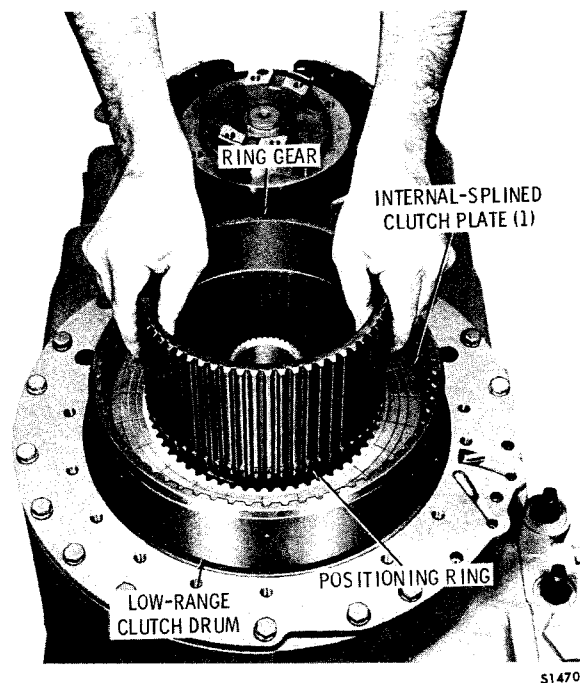

Fig. 7-9. Installing high-range ring gear (-1 model)
(3) Install snapping 25 (B, foldout 10) into the groove in the high-range sun gear sleeve.
(4) Install one low-range, internal- splined clutch plate into the low-range clutch drum (fig. 7-9). Install the high-range ring gear, positioning ring first, into the clutch plate splines.